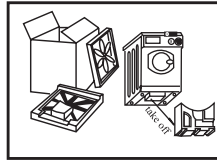

Fig.1
- As shown in Fig.1, remove all the packing materials (including the foam base). It is normal that there are some water drops on the plastic bag, the cushion and the porthole. It is because of the water testing before leaving the factory.